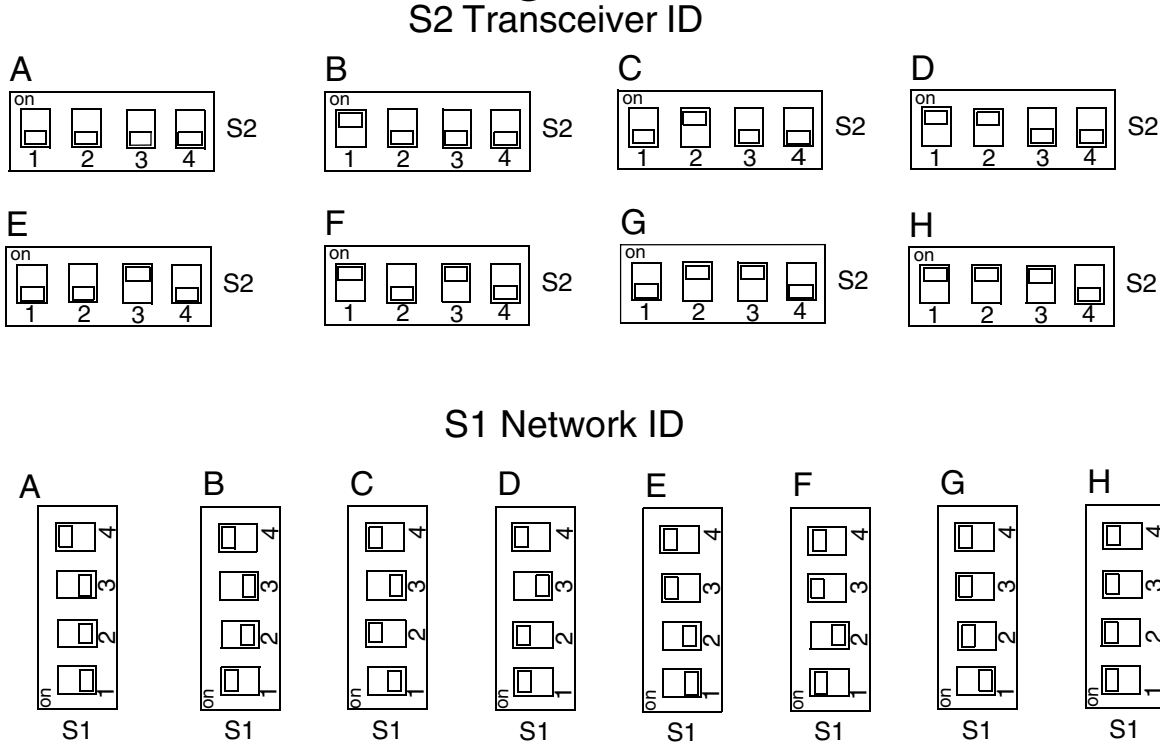

FIG. 11
As stated earlier, the default dipswitch setting is (AA) for a RS232 connection. If RS422 connection is used, this setting will require a change using the settings in FIG. 11.
- Dipswitch setting (4) of the S1 Network ID changes position when using RS422 cable instead of RS232 cable.